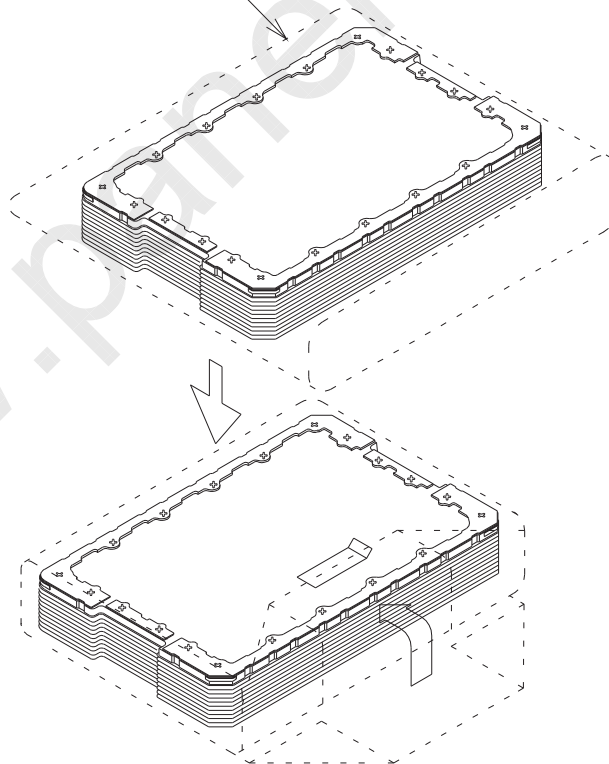

Fig.11 Packaging style (Tray for packaging)
- 2) Packaging style : Fig. 11, 12